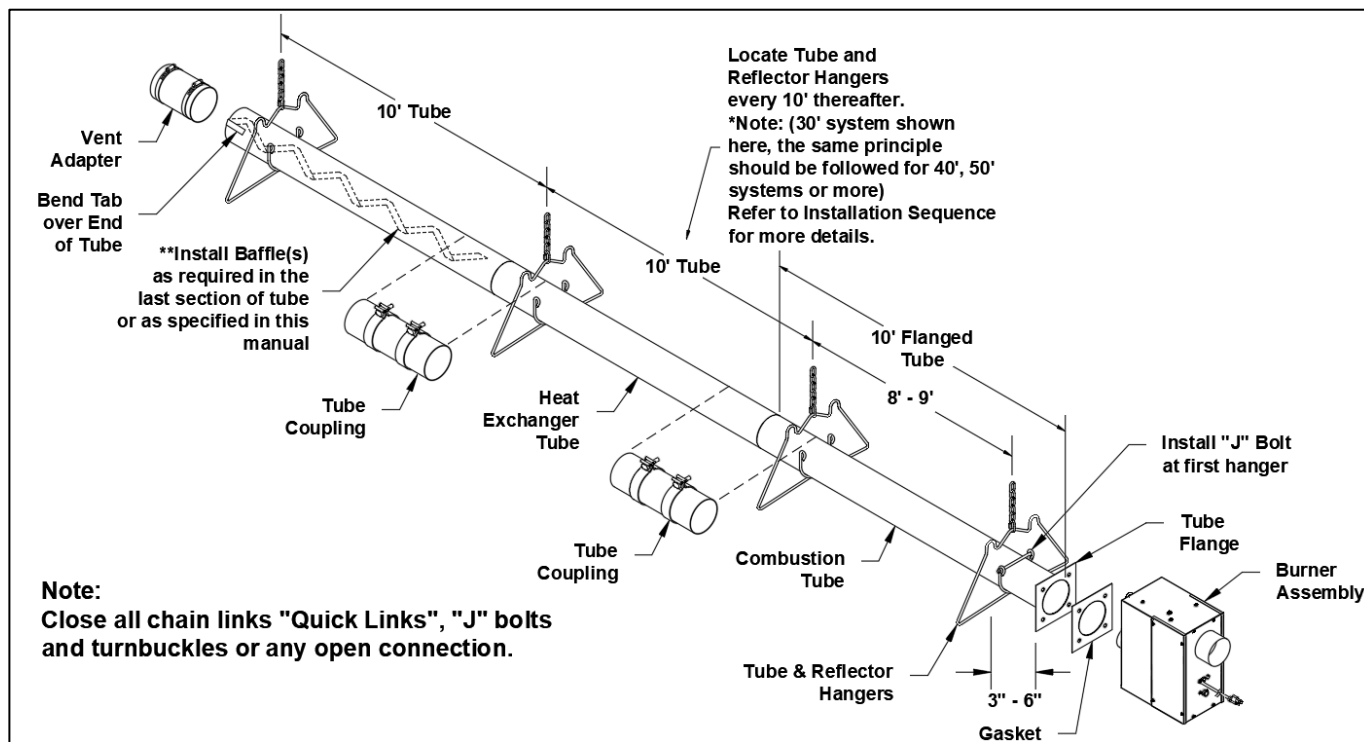

Figure 15: Overall view of Tubes and Reflector Hangers
- A general overall view of the tubes and reflector hangers are shown in Figure 15 below